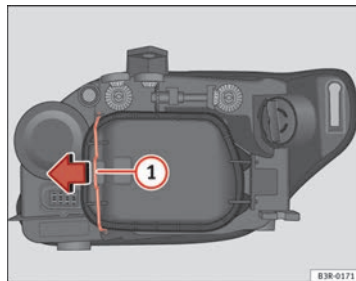

Fig. 198 Side light bulb (outside of vehicle)
- Move the brace ⇒ Fig. 198 ① in the direction of the arrow and remove the rigid cover, separating the brace side and then removing the two tabs from the other end of the cover.